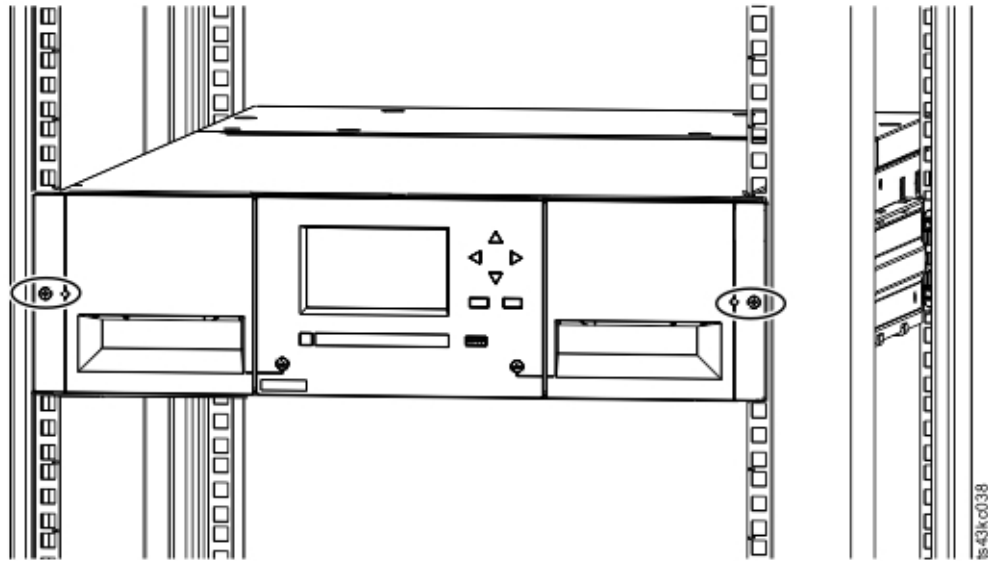

Figure 41. Library in the rack
5. With a Phillips screwdriver, loosely screw the module to the front of the rack, one screw on each side. See the circled areas in Figure 41 on page 49.